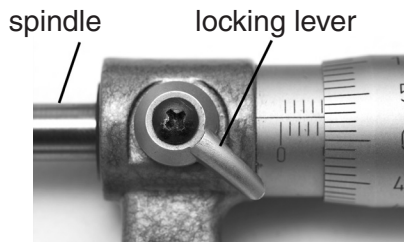

Fig. 14
- (iv) When the locking lever shown in Fig. 14 is moved clockwise it locks the spindle in place.